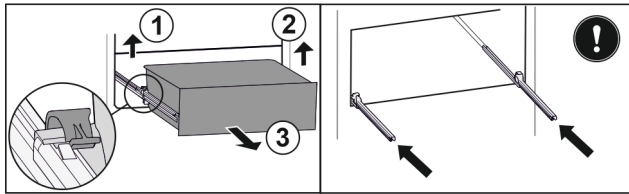

Fig. 89
- Lift left clamp and simultaneously pull drawer forwards on the left. Fig. 89 (1)
- Lift right clamp and simultaneously pull drawer forwards on the right. Fig. 89 (2)
- Remove drawer to the front. Fig. 89 (3)